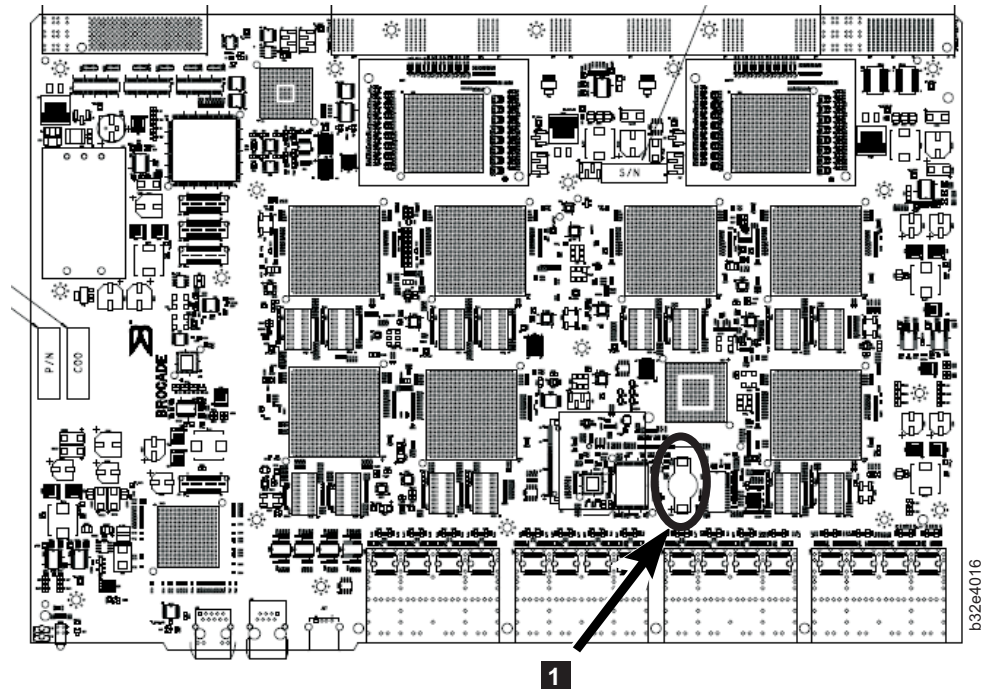

Figure 56. Encryption blade battery location
7. For the optional FS8-18 encryption blade, go to the BC1 location (see **1** in Figure 56) on the main board and remove the BR1225 battery.